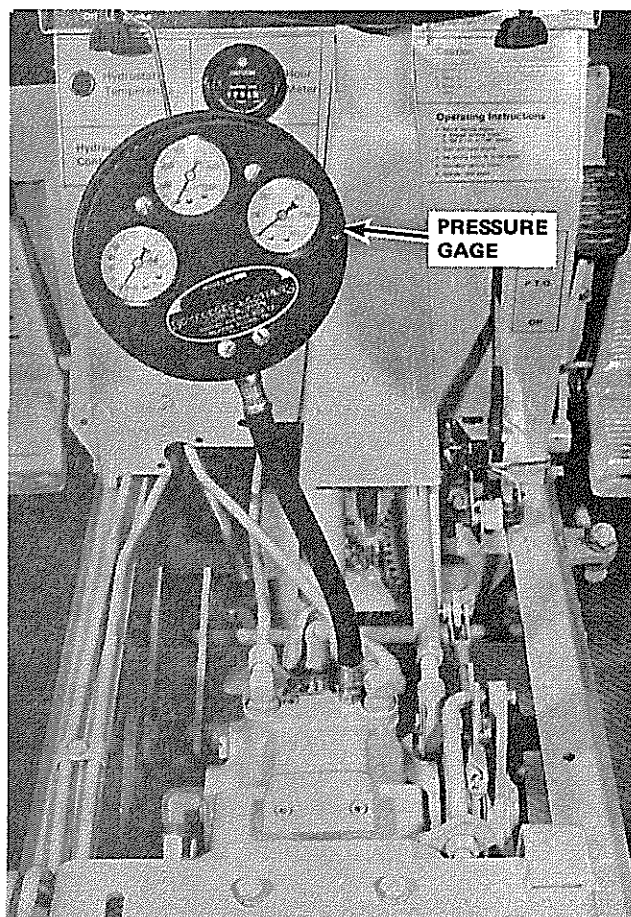

FIGURE 3-8
3. The gage (fig. 3-8) should register a pressure reading of 70 to 150 P.S.I. If the pressure reading is below 70 P.S.I. check the following.